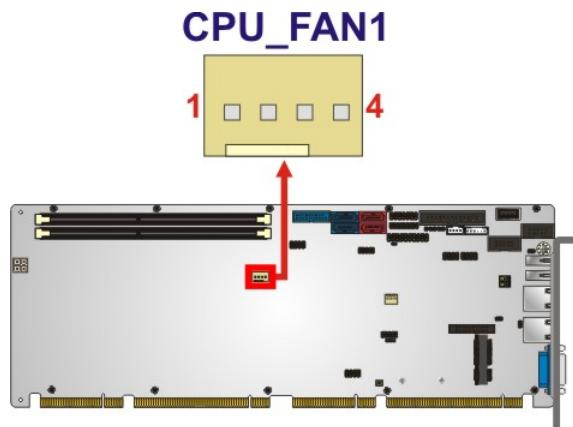

Figure 3-9: CPU Fan Connector Location
**CN Location:** See Figure 3-9